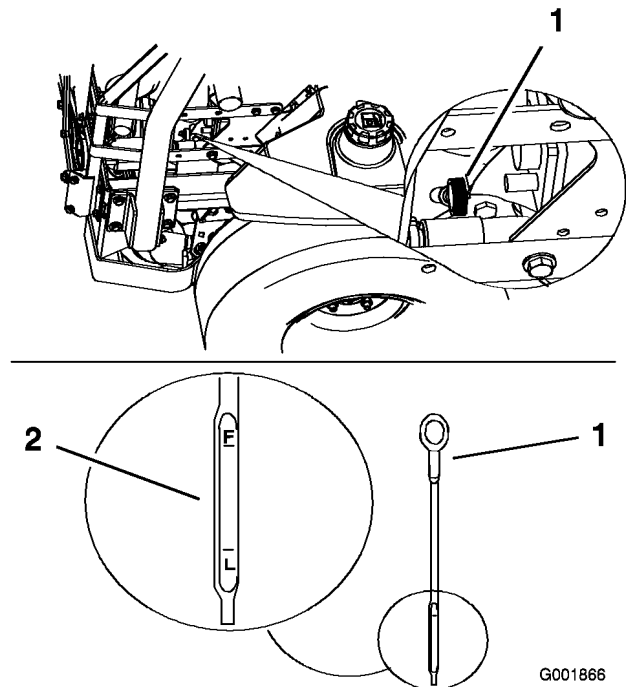

Figure 42
3. Clean around the oil dipstick (Figure 42) so dirt cannot fall into the filler hole and damage the engine.
4. Pull the oil dipstick out and wipe the metal end clean (Figure 42).
5. Slide the oil dipstick fully into the tube. Pull the dipstick out and look at the metal end (Figure 42). If the oil level is low, slowly pour only enough oil into the fill hole to raise the level to the full mark.